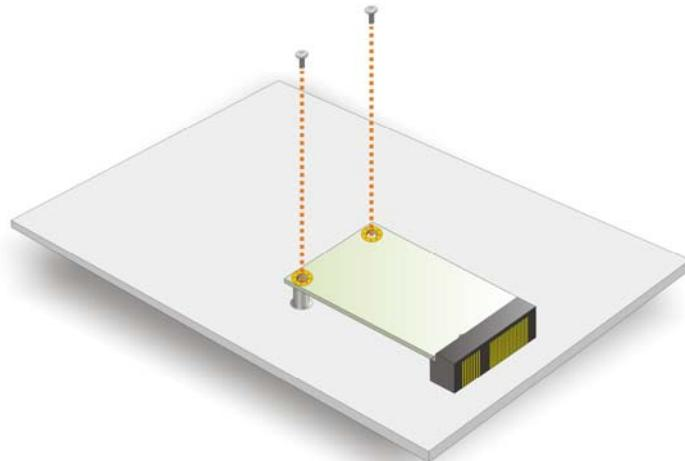

Figure 4-10: Secure the mSATA Card
Step 4: Secure the mSATA card. Secure the mSATA card with the retention screws previously removed (**Figure 4-10**).